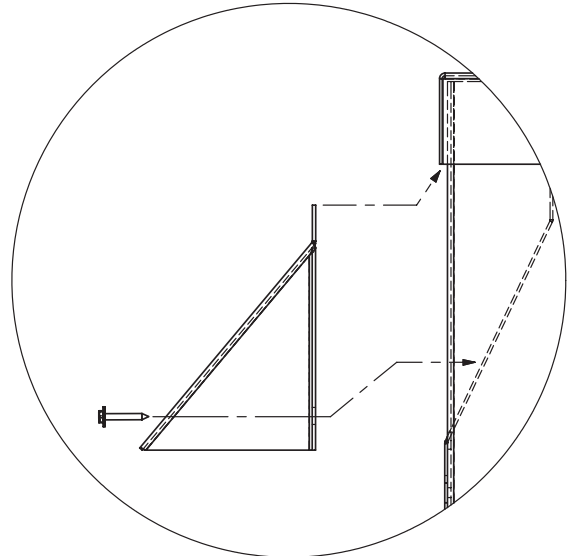

FIGURE 1 - RAINHOOD
6) Line up the rainhood mounting holes with the existing holes in the enclosure. Using the screws removed in step 4, secure the rainhood to the enclosure - see figure 1.